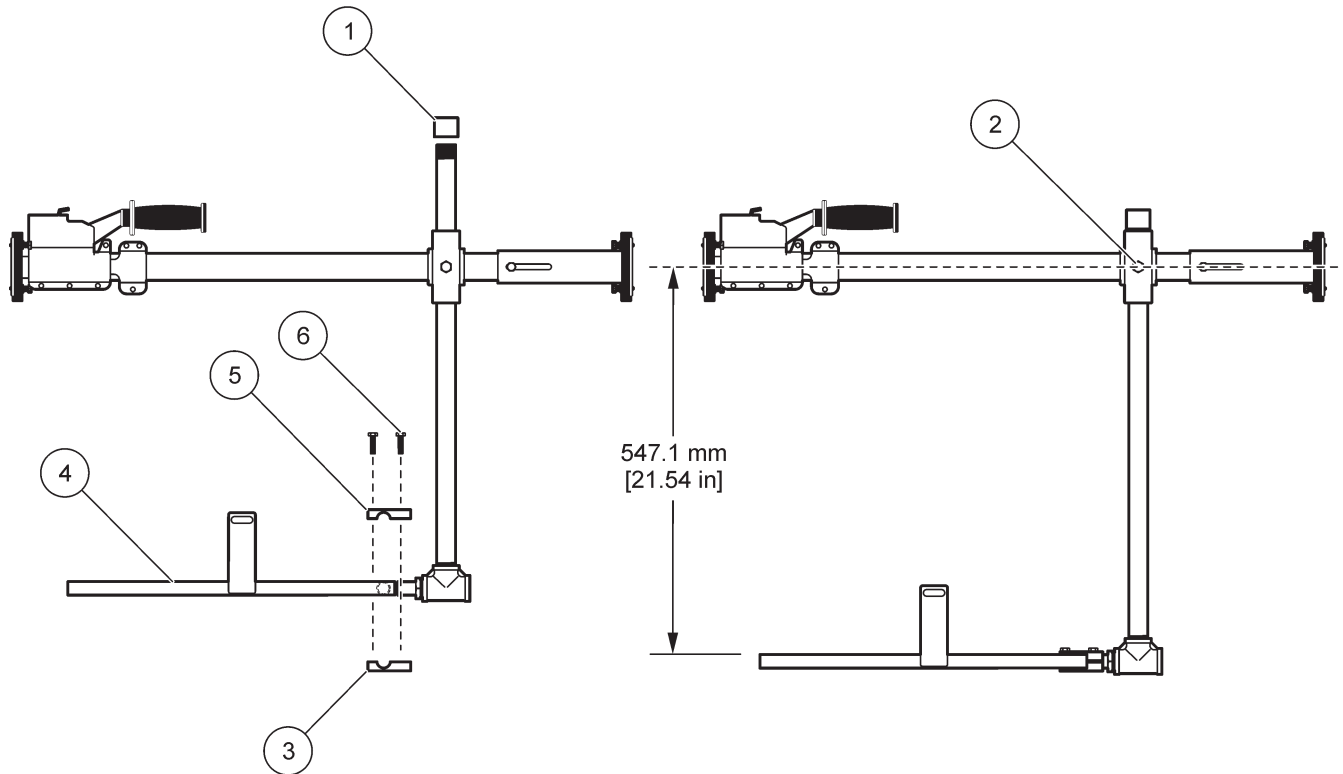

Figure 3 Assemble components
2. Assemble the extension pipe and frame to the jack bar as shown in Figure 3.
Assemble the extension tube and frame to the jack bar as shown in Figure 3.